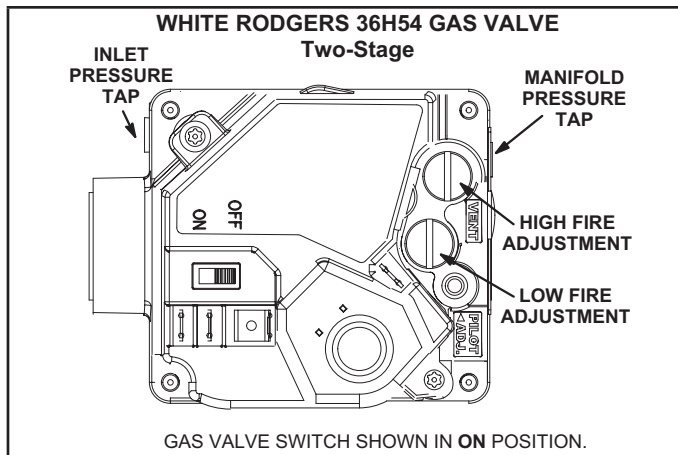
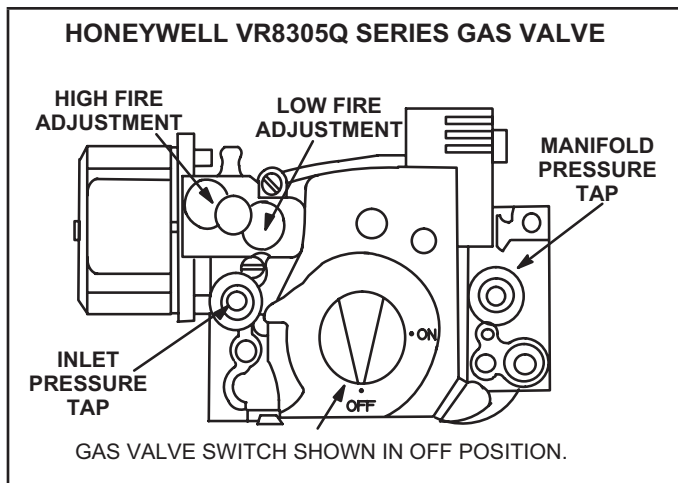

FIGURE 18
FIGURE 19
On the White-Rodgers valve second stage is slow opening (on to high fire pressure in 40 seconds and off to low fire pressure in 30 seconds). The White-Rodgers valve is adjustable for high fire only. Low fire is not adjustable. On the Honeywell valve second stage is quick opening. The Honeywell valve is adjustable for both low fire and high fire. FIGURE 18 and FIGURE 19 show gas valve components. TABLE 9 shows factory gas valve regulation for ZGD series units.
Gas Valve Operation for Honeywell VR8305Q or White Rodgers 36H54 FIGURE 18 or FIGURE 19
- 5 - Turn gas valve switch to OFF. See FIGURE 18. On Honeywell VR8305Q gas valves, turn the knob on the gas valve clockwise to "OFF". Do not force. See FIGURE 19.
- 6 - Wait five (5) minutes to clear out any gas. If you then smell gas, STOP! Immediately call your gas supplier from a neighbor's phone. Follow the gas supplier's instructions. If you do not smell gas, go to the next step.
- 7 - Turn gas valve switch to ON. See FIGURE 18. On Honeywell VR8305Q gas valves, turn the knob on the gas valve counterclockwise to "ON". Do not force. See FIGURE 19.